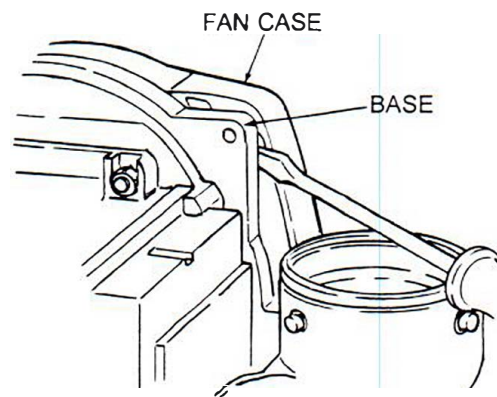

Figure 8. Insert flat bladed screwdriver in opening between fan case and base pan, then pry to break seal.
4. *See Figures 8 and 9.* Using one of the two methods shown, break seal between fan case and base pan and remove fan case.